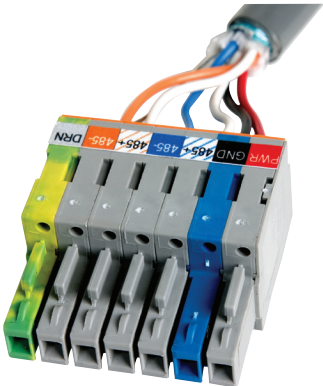

Figure 2.8 – Color Label on Plug-in Terminals
The SmartSensor Advance will receive power once each SmartSensor 6-conductor cable is correctly landed into the plug-in terminals on the backplate (see Figure 2.8 and Table 2.1). Each 6-conductor cable has one DC power wire pair, two RS-485 communication pairs and a drain wire. The service end of the cable connects to plug-in terminals on the backplate (see Figure 2.8).
- 3** Insert the wire leads into the bottom side of the plug-in terminal according to the color code shown in Table 2.1 and Figure 2.8. Make sure the wires are completely inserted in the terminal.
- First, for visual confirmation, one part of the plug is blue (see Figure 2.8) and must be visually matched up to a blue terminal block. The location of the blue piece rotates in the different plugs and terminal block sections: in the first, the first block is blue, in the second, the second is blue, etc.
- Second, the plugs are keyed (see the blue piece in Figure 2.8) so they will only fit into their correct terminal block sections.